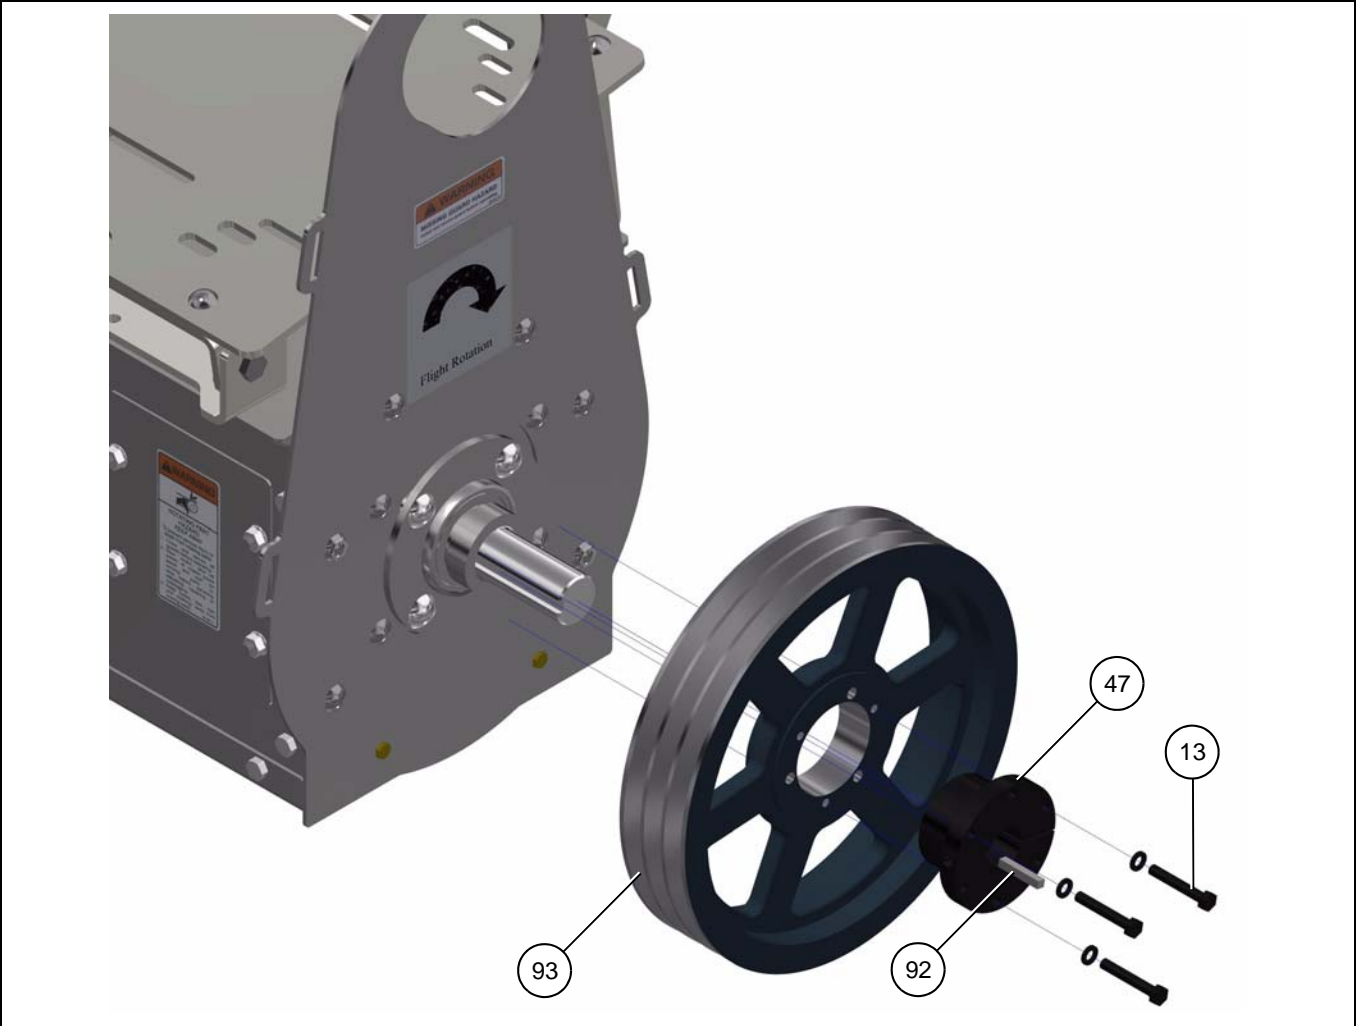

Figure 4AY
1. Be sure the tapered cone surfaces of the bushing (47) and inside of pulley (93) are clean and free of grease and oil.
2. Place the bushing (47) in the pulley (93).
3. Place the bolts and lock washers (13) loosely in pull-up holes. Bushing (47) remains fully expanded to assure sliding fit on the shaft.
4. With key (92) on shaft slide pulley (93) to the desired position on shaft. Be sure heads of bolts are on the outside.
5. Tighten bolts alternately and progressively until they are pulled up tight. Tighten to 15 lbs.-ft. (20 Nm) torque. Do not allow pulley (93) to be drawn in contact with the flange of bushing (47). There should be a gap from 1/8" to 1/4" (3.2 mm-6.4 mm). (See Figure 4AY.)